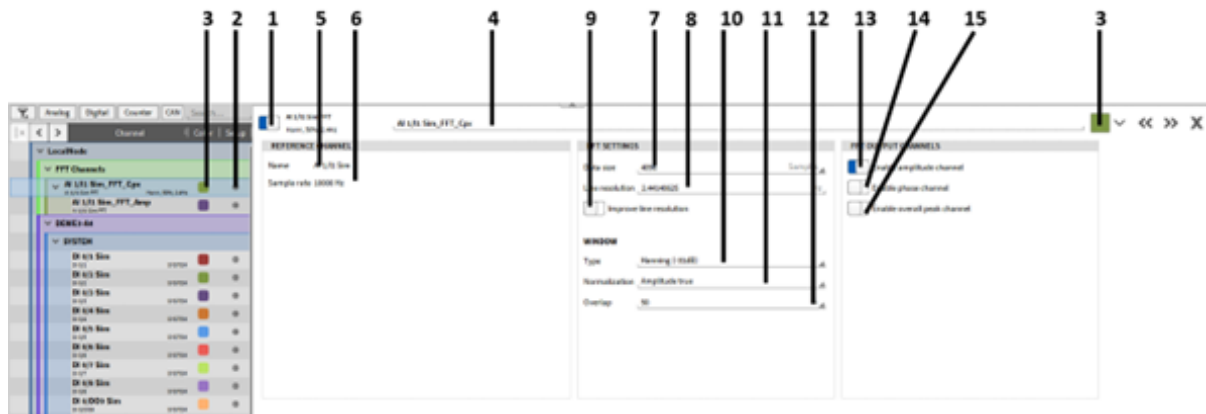

Fig. 7.86: Complex FFT channel setup - overview
- This channel is not calculated automatically but must be selected manually in the Channel Setup of the complex spectrum Channel *Channel\_Name\_Cpx* after creating the FFT channel (see ⑭ in Fig. 7.86).